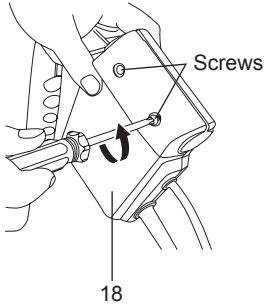

Fig. 10
6. To assemble the switch box (18), first remove the pre-assembled screws on the back cover and keep them on hand. Take down the back cover, and attach switch box (18) onto the upper handle bar (2). Click the back cover into place. Then secure it by tightening the screws (Fig.10&11&12).